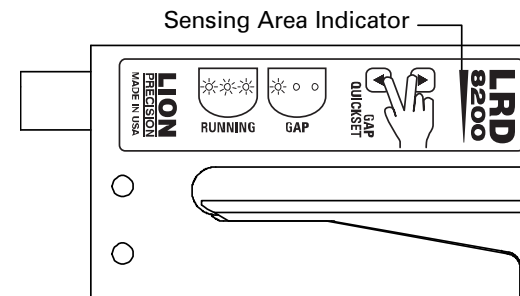

Fig. 1
- Labels must pass under the "Sensing Area" indicator (see fig. 1).
- Manually use Adjust buttons to light the "Gap Setup" light on the light bar (see fig. 1, 2).
- Run labels through the sensor to verify that the three "Running" lights (see fig. 1, 2) are active (on or flashing) while labels are passing through the sensor. If not, use Adjust buttons until they are. More lights than the three "Running" lights may be active while running labels.